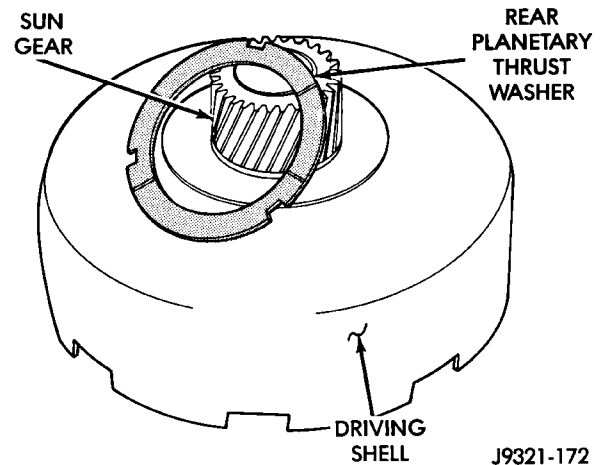

Fig. 178 Rear Planetary Thrust Washer Removal
(6) Remove tabbed thrust washer from rear planetary gear (Fig. 178). Note washer position on gear for assembly reference.